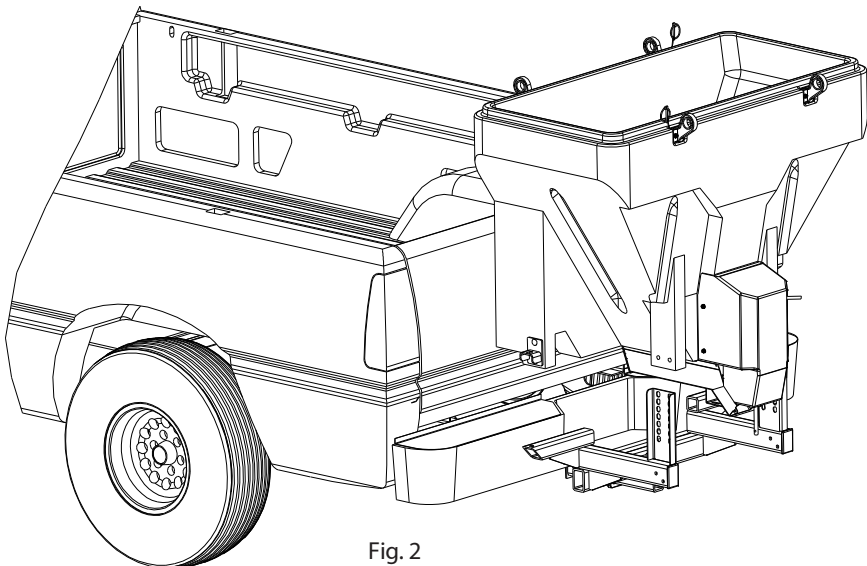

Fig. 2
2. Slide hopper assembly #3015380 between frame uprights with front portion rested on the truck's bumper. Fig.2.